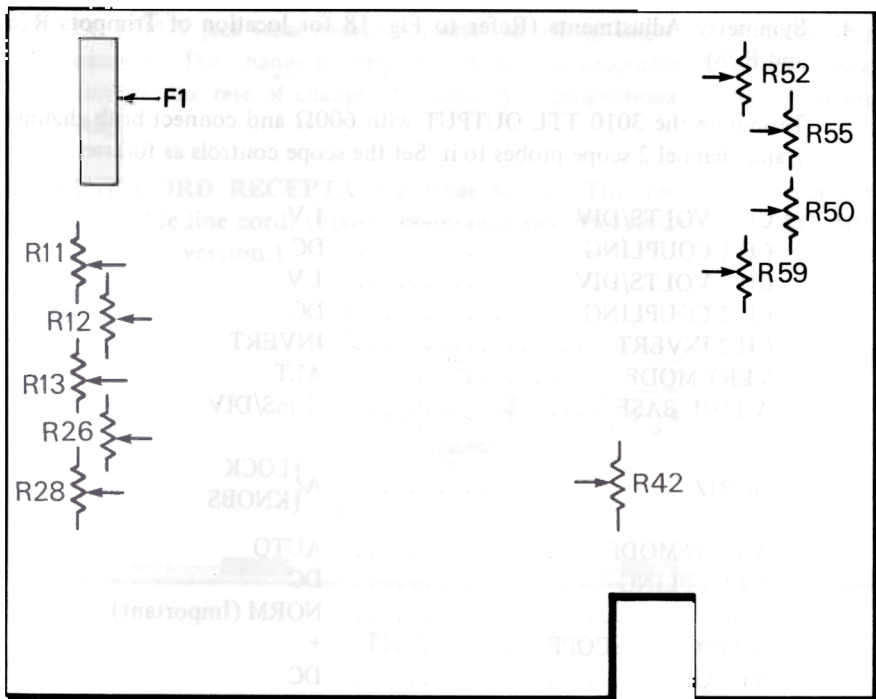

Fig. 18. Trimpot location.
Refer to Fig. 18 for trimpot location and Table for trimpot function.
4. Symmetry Adjustments (Refer to Fig. 18 for location of Trimpots R26 and R28).
3. Change fuse F1 (see Fig. 18 for location). Use  $\frac{1}{8}$  A, 3AG slow blow for 105-130 volt operation, or  $\frac{1}{4}$  A, 3AG slow blow for 210-260 volt operation.